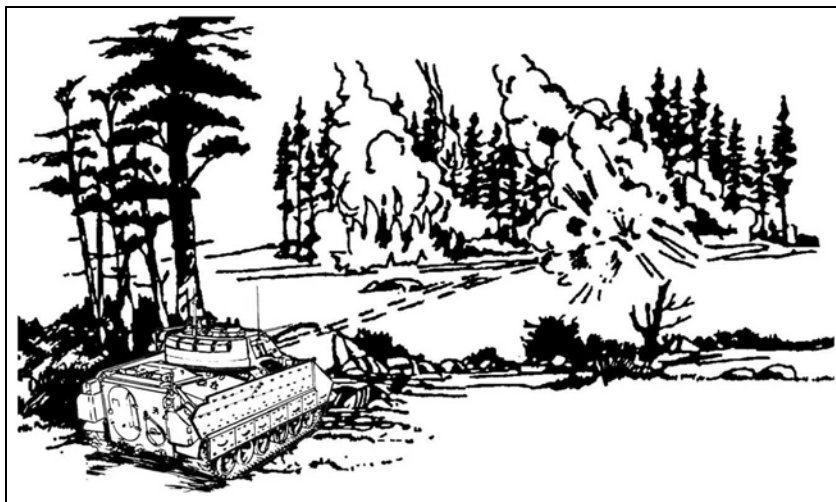

Figure 6-41. Incendiary fire.
c. **Incendiary Fire.** Machine gun tracer ammunition, particularly armor-piercing incendiary tracer rounds, can set fire to any readily combustible material, such as dry grass, grain, dried brush, or wood. Fire denies a particular area to the enemy, and smoke from a burning field can screen movements (Figure 6-41, page 6-40).